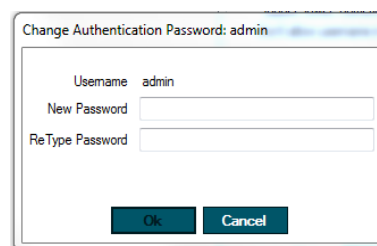

Figure 64 - "Change Authentication Password" window
**“Set Password”:** This option enables the Password of an Existing User to be changed. Check the Set Password Check box and a New Window will open (refer to Figure 64) prompting for a New Password and to Re-Type the New Password to validate it and click “OK”. The New Password should abide by the System Policy settings. Refer to System Policy for further information.